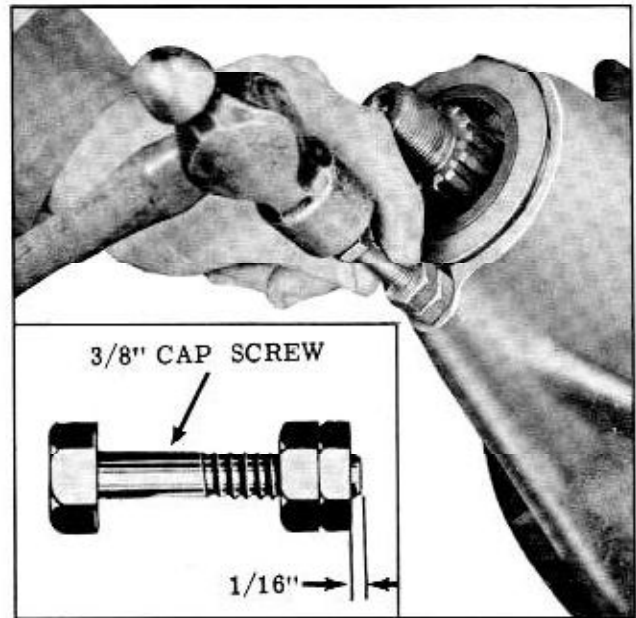

Fig. 6-12 Installing Cup Plug
5. Coat O.D. of a new plug with Permatex No. 3, then drive plug into oil drain galley until it is FLUSH with carrier. (Fig. 6-12)